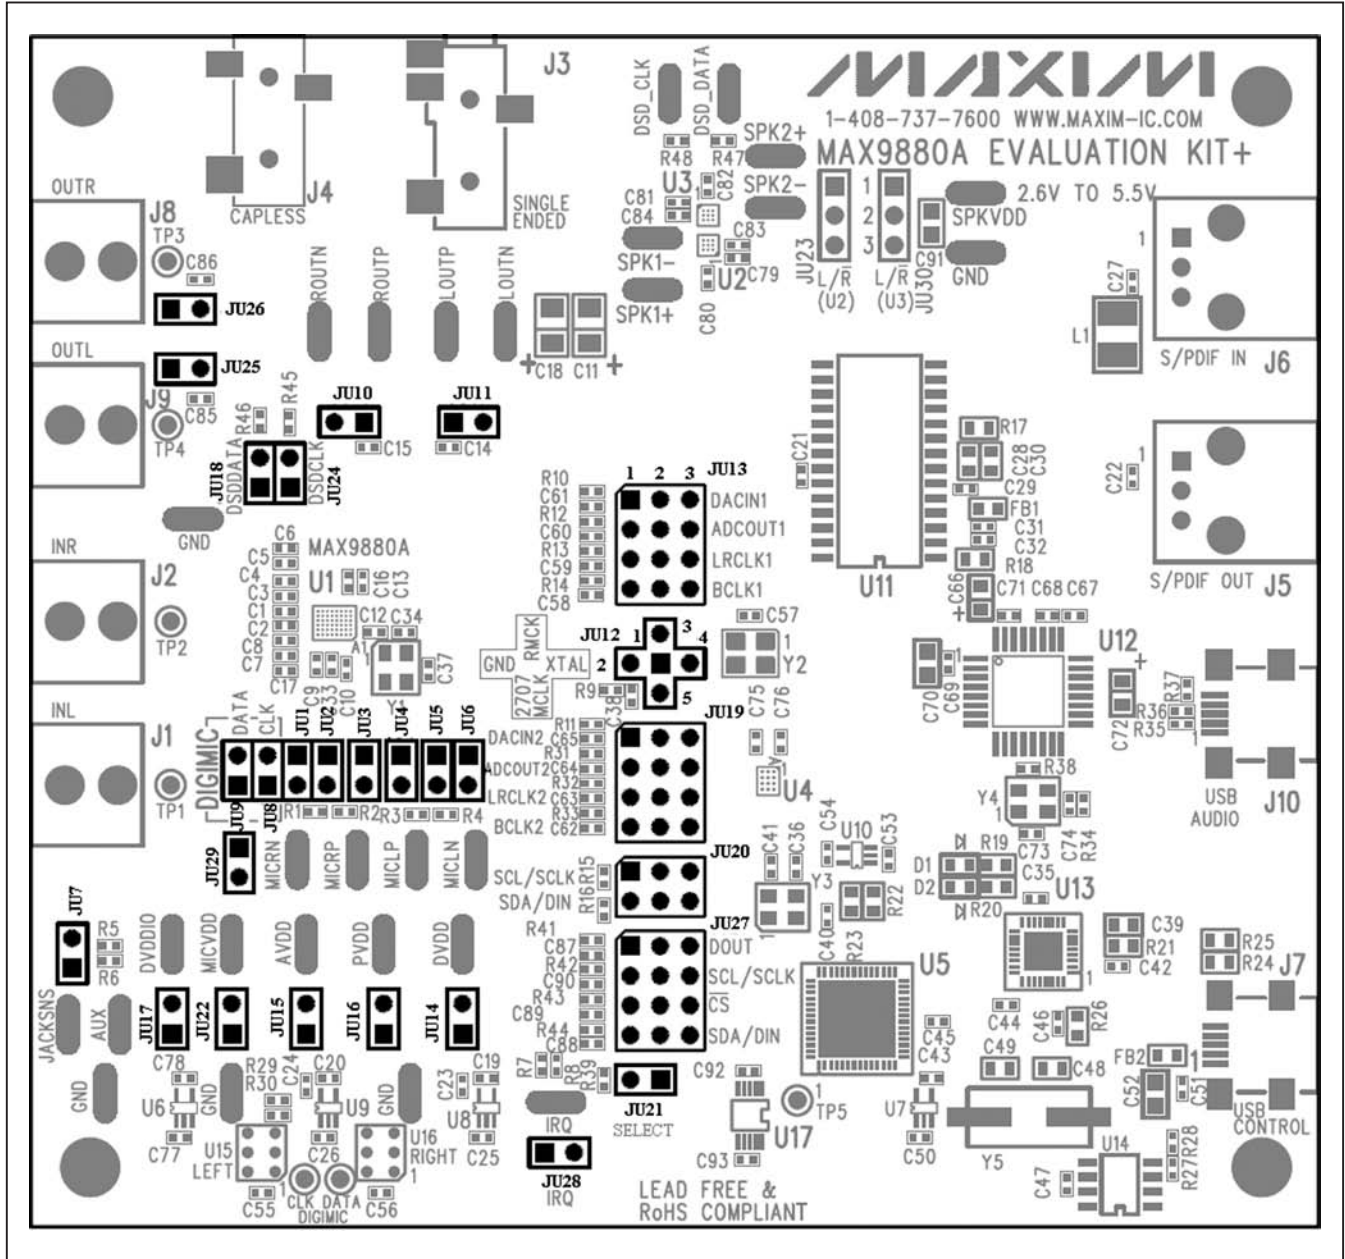

Figure 1. Default Shunt Positions (JU13, JU19, JU20, and JU27)
- 3) Verify that the shunts on jumpers JU13, JU19, JU20, and JU27 are configured as shown in Figure 1 (the line indicates a shunt installation).